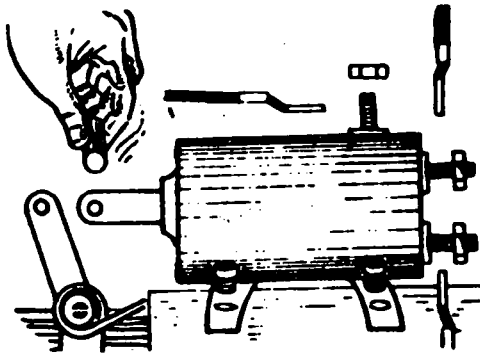

Fig. 7
- b) Remove the connecting link from the shift lever (Fig. 7).